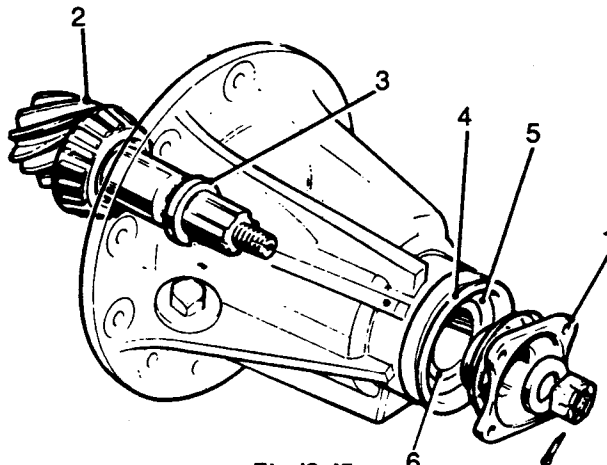

Fig J2.45
- (6) Refer to Fig J2.45. Remove the driving flange (1).
- (7) Withdraw the pinion (2).
- (8) Withdraw the shim washers (3).
- (9) Prise out the oil seal (4).
- (10) Withdraw the spacer (5).
- (11) Withdraw the drive flange roller bearing (6).
- (12) Press off the pinion head bearing.